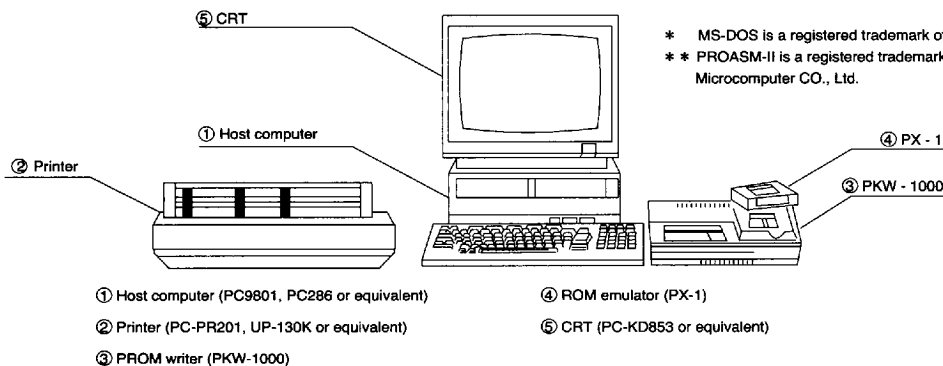

Fig. 17
The personal computer system requires the ability to run MS-DOS \* as the operating system (OS). A sample system configuration is shown for reference in Figure 17.
Figure 17 shows an example of a source program, and Figure 19 shows an example of the assembly output for this program.